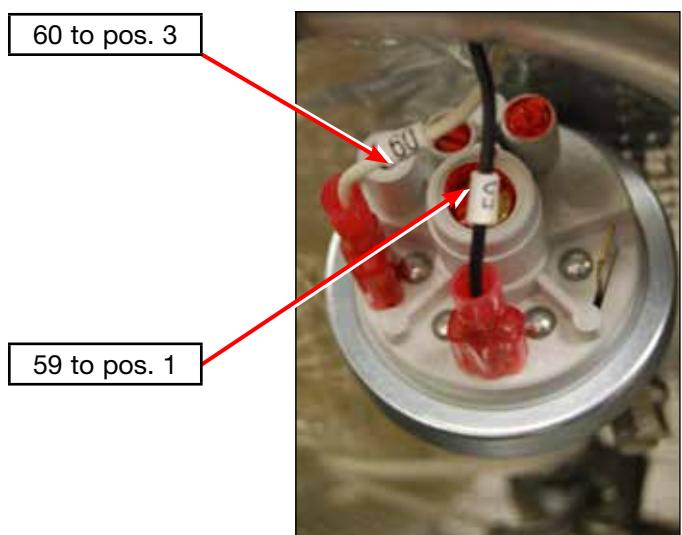

Figure 34b
2. Reconnect wiring. (Figure 34b)